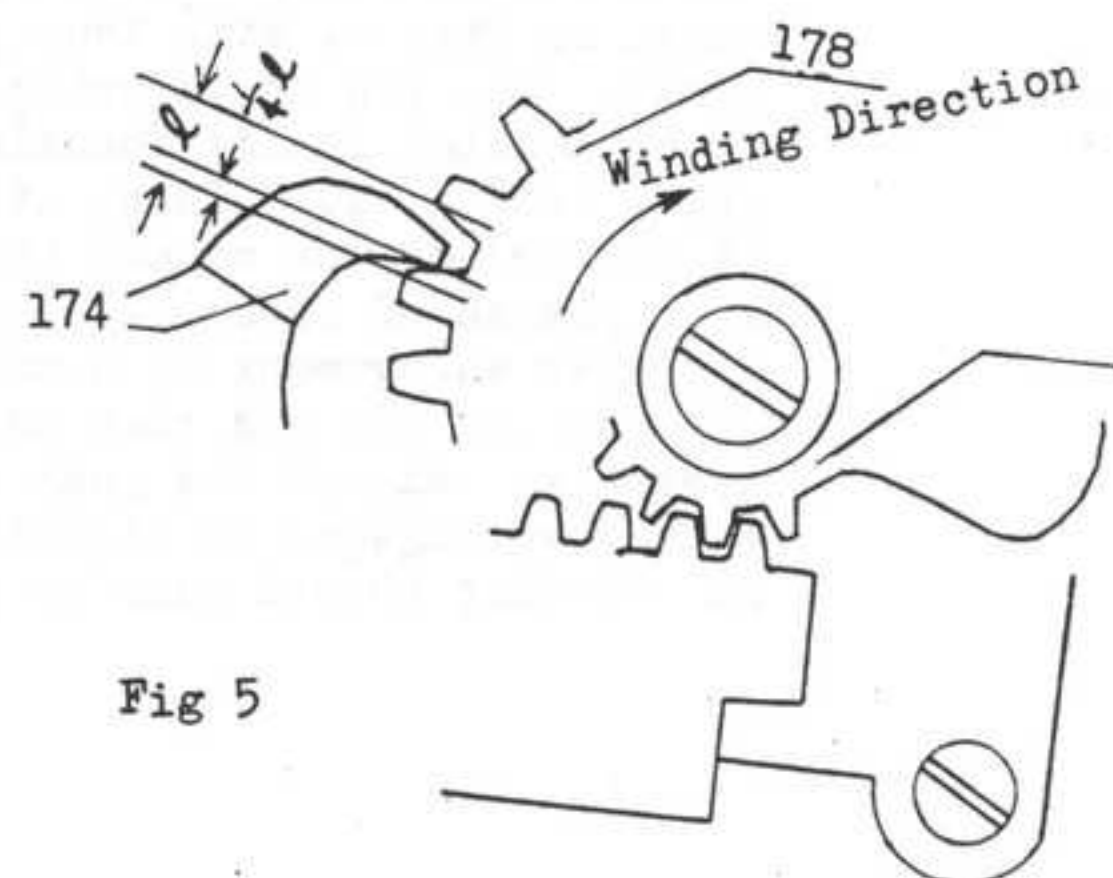

Fig 5
Make adjustment of Eccentric ratchet washer (173) so that the end of Ratchet pawl (174) will still position between the teeth of Winding gear (178), leaving $\frac{1}{4}$ of the width between gear teeth, at the very time when Wind lever (157) has been fully swung. See Fig. 5.